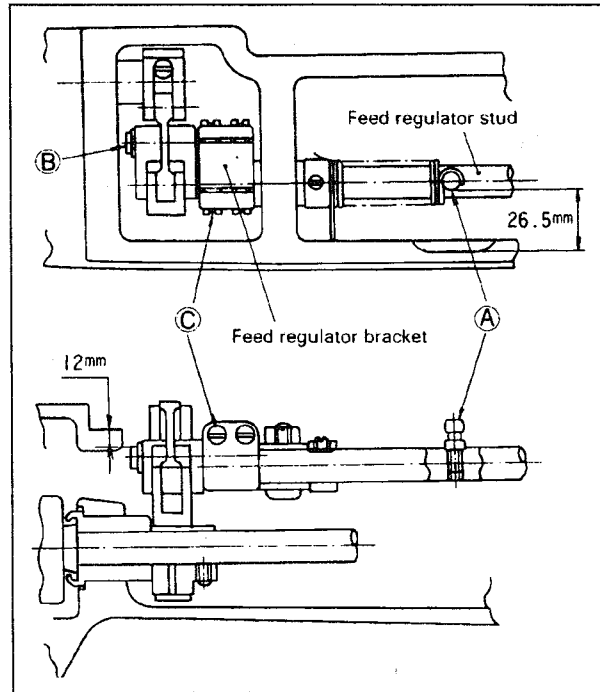

Fig.31
3) Installing the feed regulator bracket (Fig.31):
(1) Set the clearance between special screw "A" located on the regulator stud and the side wall of the machine arm to 26.5mm as Fig.31.
(2) With the feed regulator stud held as explained in step (1) above, adjust the feed regulator bracket. This adjustment should insure a clearance of 12mm between the periphery of pin "B" located on the feed regulator bracket and the top cover mounting face located on the arm. Tighten screw "C".